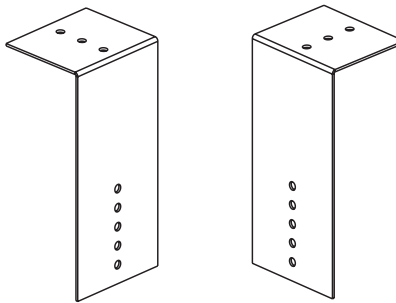

Figure 9. Concentric Adapter Box Brackets
4. Secure longer angles on concentric adapter box brackets (see **Figure 9**) to concentric adapter box.
- b. Position concentric adapter box to match pipe runs and secure short angles of concentric adapter brackets (see Figure 9) to underside of roof using field-supplied hardware.
- b. Secure short angles of concentric adapter box brackets (see **Figure 9**) to wall.